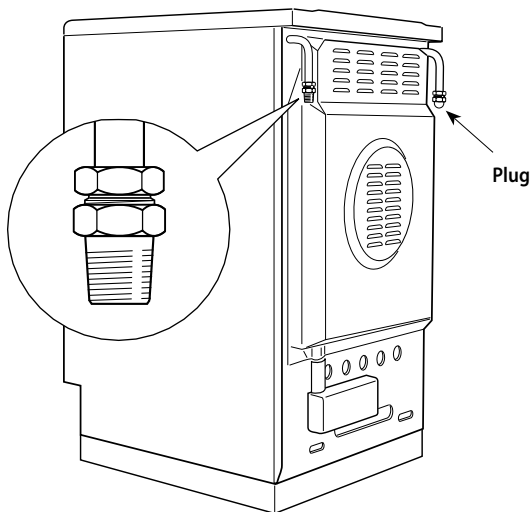

Fig. 7 Gas supply inlets
- Close off the unused inlet with the cap and sealing gasket supplied (Fig. 7).